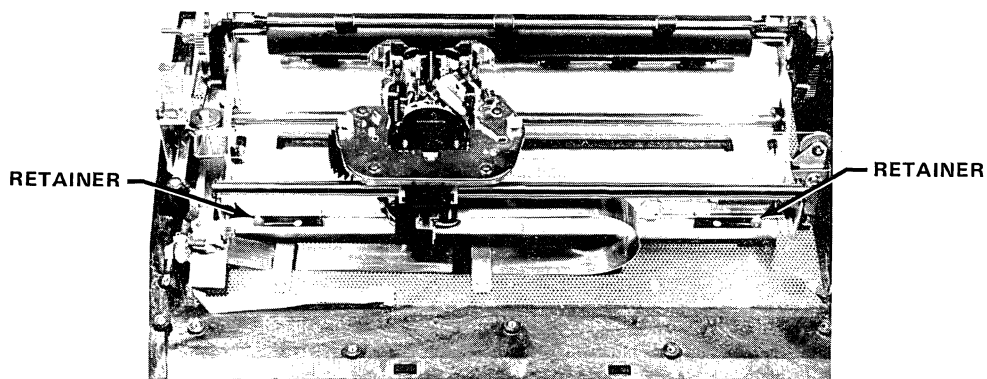

Figure 4-17. PRINT MECHANISM FRONT RETAINERS
- 13) Unlatch the print mechanism from the bottom pan. The mechanism is held in place by two retainers located just inside the side frames of the mechanism, as shown in Figure 4-17. The retainers are unlatched by pulling the retainer slides toward the center of the mechanism. (A forceful tug may be required to overcome the detent.)